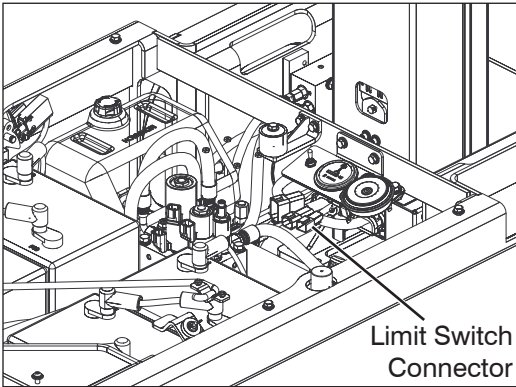

Figure 5-6. Limit Switch Inside the Mast Assembly
10. Locate and disconnect the limit switch connector (see Figure 5-6).